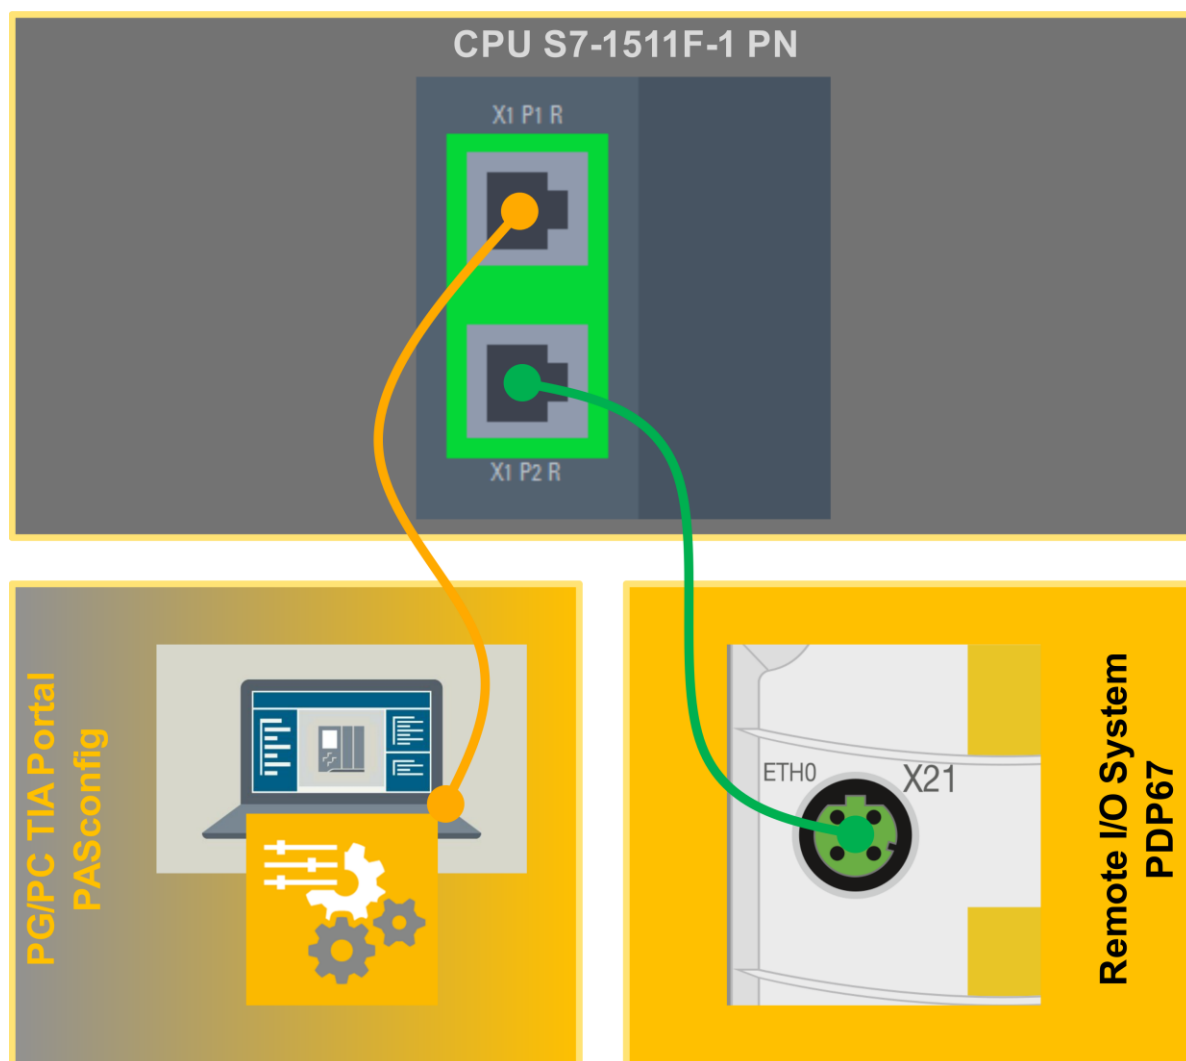

Figure 12: Application – Wiring of Ethernet connections (schematic)
Figure 12 schematically illustrates the wiring of the Ethernet connections:
- ▶ Connect the S7-CPU and the I/O device in accordance with [Figure 12: Application – Wiring of Ethernet connections \(schematic\) \[18 \]](#):